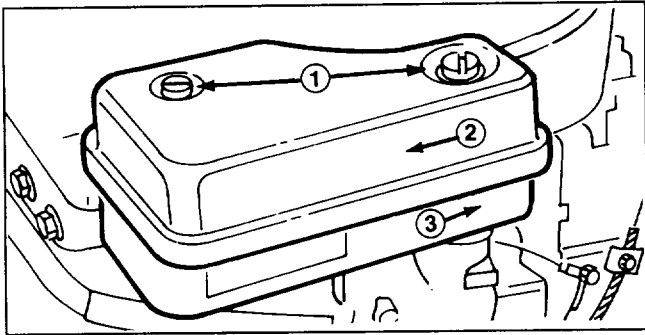

Figure 9
2. Remove two screws and lift complete air cleaner assembly off carburetor (Fig. 9).
1. Remove the screws holding air cleaner in place and lift complete air cleaner assembly off carburetor (Fig. 9).